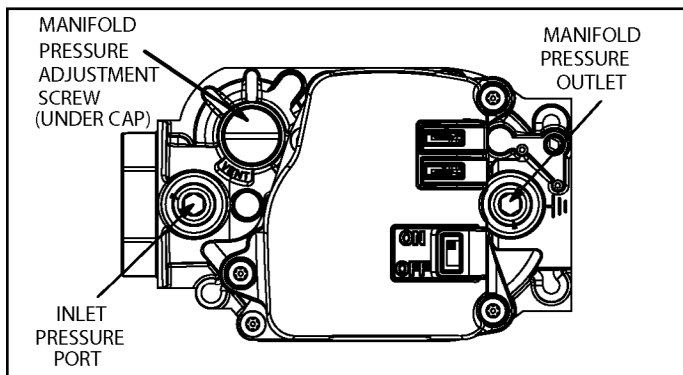

Figure 61. Gas Valve Shown in "ON" Position
See Figure 61
6. Move gas valve switch to OFF. See Figure 61.
8. Move gas valve switch to ON. See Figure 61.